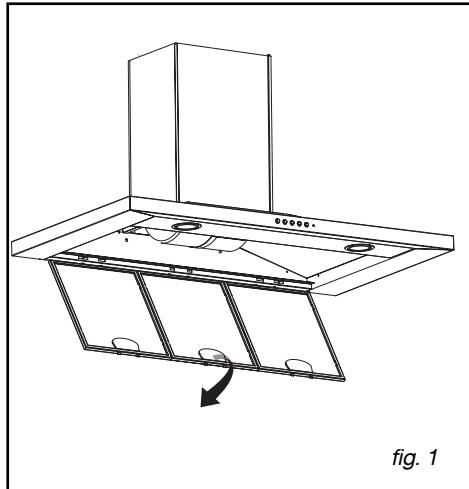

fig. 1
- **Dismantling the filter cartridge (fig. 1)**